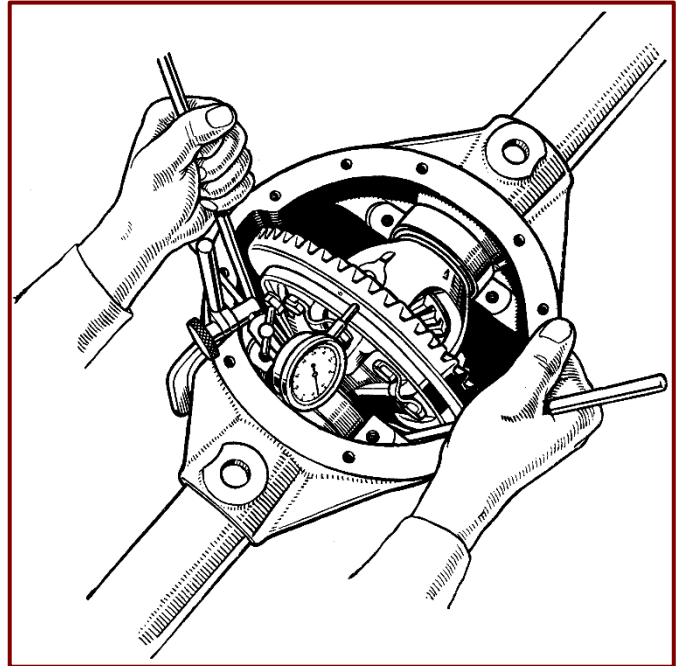

Figure 51. Differential Setting.
4. Inserting two levers between the housing and the bearing cup, move the differential assembly to one side of the carrier (*Figure 51*).
2. Install a dial indicator on the housing with the button on the back face of the drive gear (Figure 51, Page 51).
10. Mount a dial indicator on the gear carrier housing with a button against the back face, in a similar manner to that employed for differential bearing adjustment as shown in *Figure 51*. Turn the pinion by hand and check the runout on the back face, which should not exceed 0.005" (0.127 mm). If there is excessive runout, strip the assembly and rectify by cleaning the surfaces locating the drive gear. Any burrs on these surfaces should be removed.